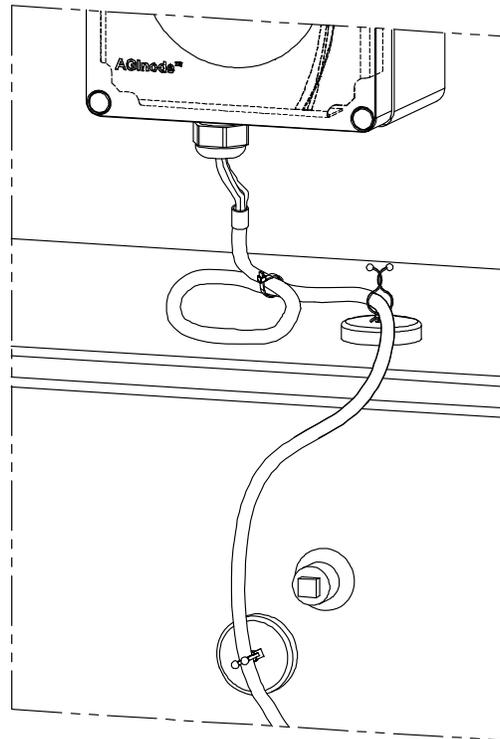

Figure 5. Sensor cable with magnetic clamps
9. Position the sensor cable using the provided magnetic cable clamps. Attach the magnetic clamps to the sensor cable using the plastic twist-locks (see Figure 5). Attach and position the magnetic clamps on the transformer cover and enclosure wall as desired to support the sensor cable. The sensor cable may be looped and tie-wrapped to take up excess length if desired.